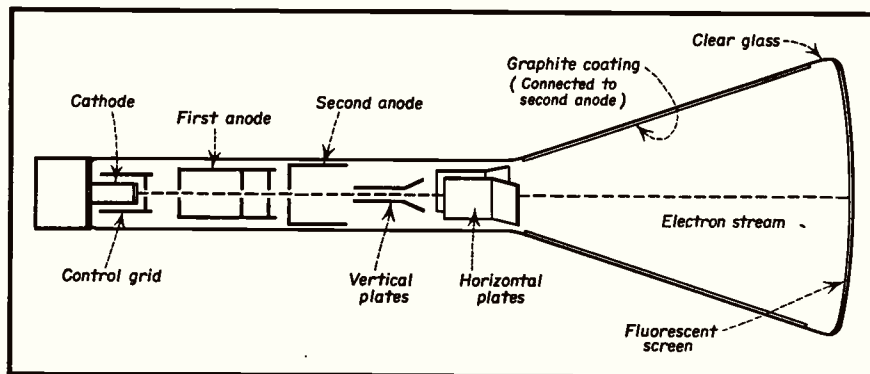

Fig. 3. Cross section drawing of a simple cathode ray tube.
*Figure 3* illustrates the functional operation of the electrostatic cathode ray tube. The heater element or filament, increases the temperature of the cathode until electrons are emitted from the cathode surface. The control grid, while it has a cylindrical shape, performs the same function as the control grid in any amplifier tube. If the potential of the control grid is greater